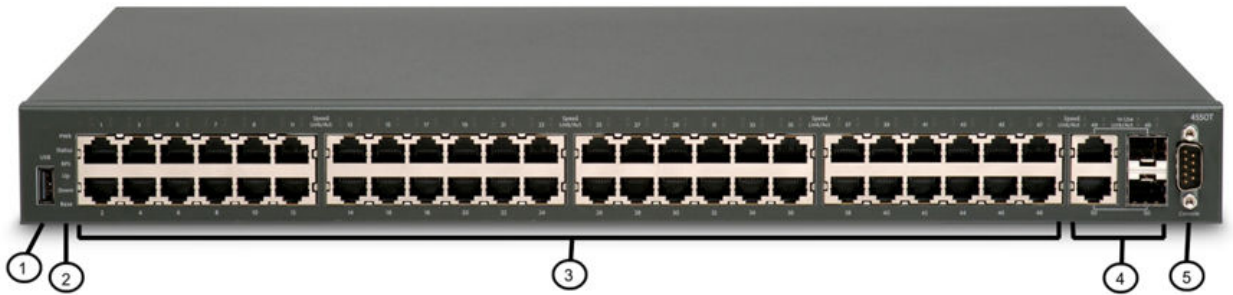

Figure 9: Avaya Ethernet Routing Switch 4550T
- Figure 9: Avaya Ethernet Routing Switch 4550T on page 51